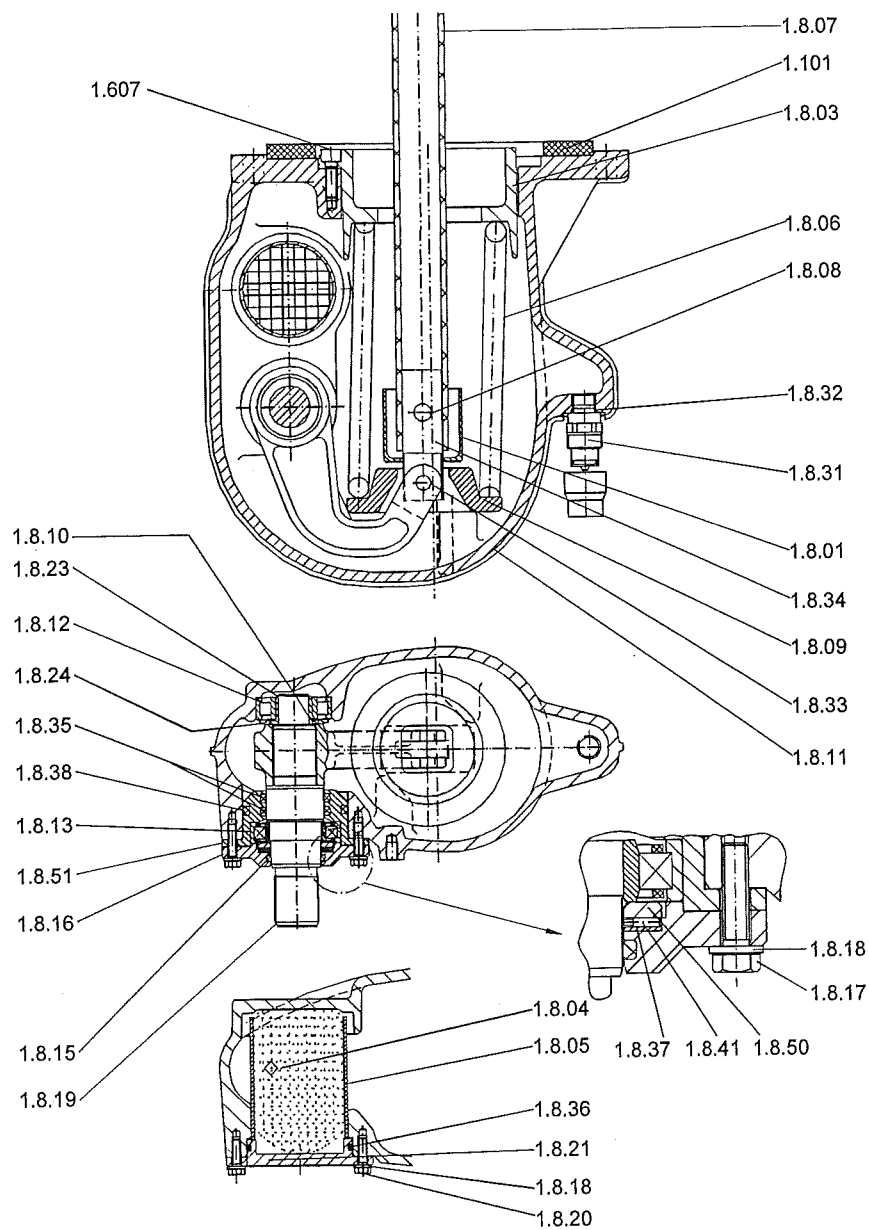

Figure B 5.5.2: Crankcase
- Detach the filter lids (1.8.21) and remove the filter chambers (1.8.05), as shown in Figure B 5.5.2.